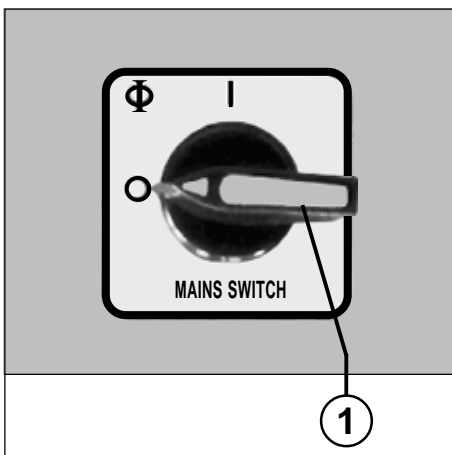

fig. 1
1. Move the main switch (1) (fig. 1) to position „1“.
### OPERATING FUNCTIONS (Figs. 1, 2 and 4):
- 1 = Mains switch (Emergency-stop) (fig. 1)**